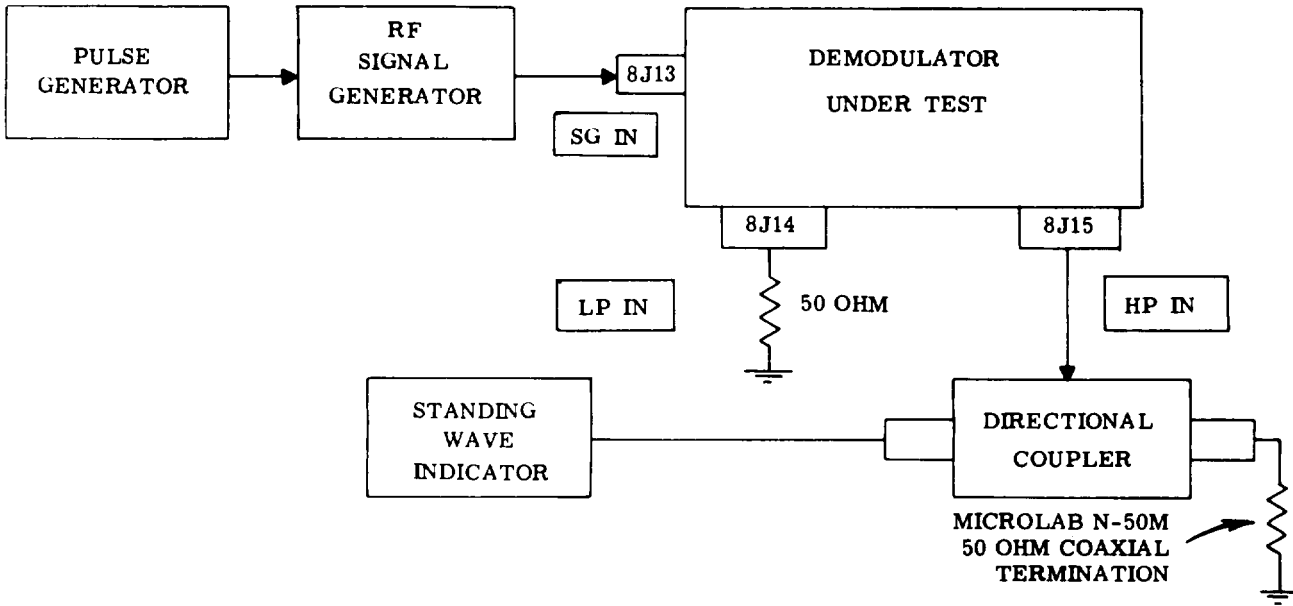

Figure 5-18. Demodulator Assembly 8A4, Attenuation Test Setup
Step 3. Connect demodulator and test equipment as shown in figure 5-18. Set prf of pulse generator to 1000 pps. Set signal generator to 1050 mHz at a power output level which provides a convenient reading without pulse jitter on the standing wave indicator.
- Step 11. Connect AN/UPM-98A and test equipment as shown in figure 5-18 for demodulator attenuation test. Set prf of square wave generator to 1000 Hz.